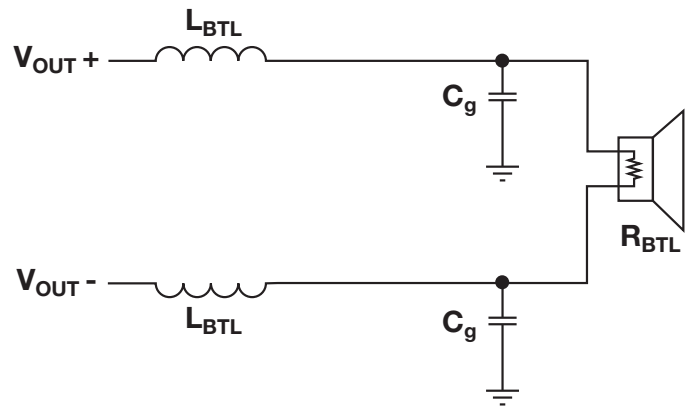

Figure 3. A Class-D amplifier BTL circuit.
Class-D audio amplifiers require reconstruction filters to convert the pulse-width modulation (PWM) signal from the amplifier output into the desired analog audio signal. These output filters are made with inductors (L) and capacitors (C) (as shown in **Figure 3**) for a typical bridge-tied load (BTL)
As I mentioned earlier, a typical car radio design has at least four channels to drive two front speakers and two rear speakers. This simple configuration requires eight inductors for a Class-D automotive audio amplifier, since each channel requires two inductors, as shown earlier in Figure 3. Thus, the size of each inductor is multiplied by 8, which is a significant contribution to overall PCB size and design weight. As a general reference, the transition from 8.2- μH inductors to 3.3- μH inductors can save over 85% in inductor space on the PCB and over 85% in weight.